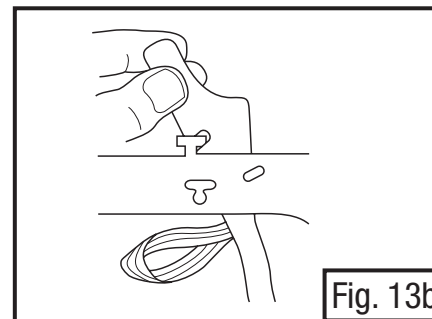
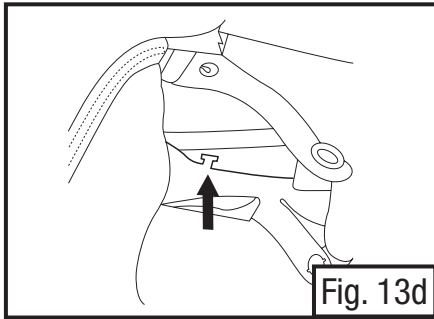

Fig. 13b
Fig. 13d
- Locate the “T” hooks on the suspension (Fig. 13d). The plastic tab of the face seal attaches to this hook on the suspension. To attach, slide the tabs in **between the suspension and the headgear shell**. Attach notch in face seal tabs onto the “T” hooks located on the suspension headband (Fig. 13b).